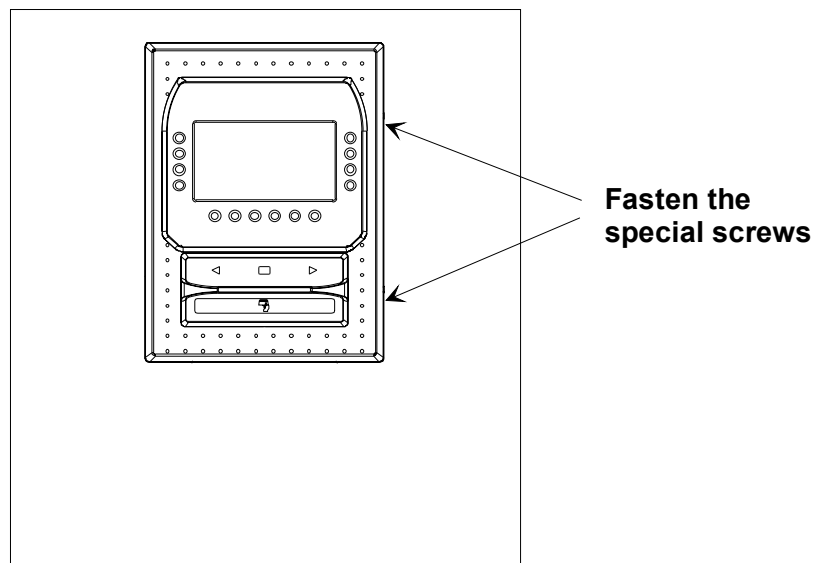

Figure 20. Closing the Terminal
4. Fasten the cover with the two special screws (see Figure 20) located on the side of the terminal (use a TORX anti-tamper TX10 screwdriver).